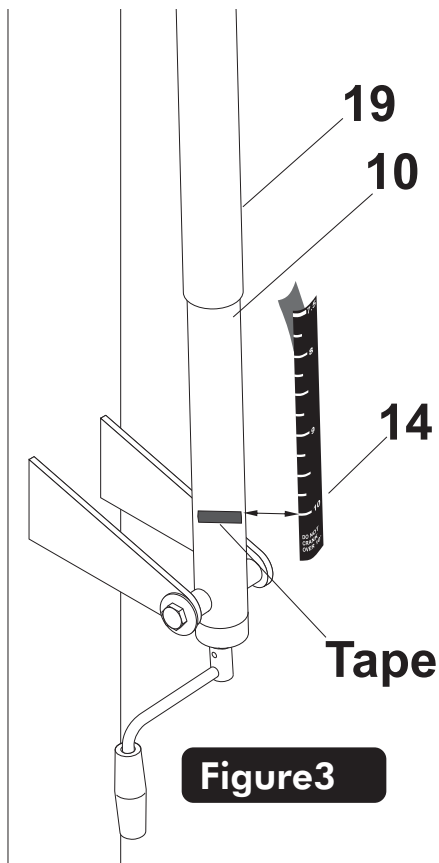

Figure3
5. Remove the adhesive backing from the Height Decal (**#17**) and carefully align and stick the decal to the back of the steel actuator (**#16**) starting at the **10 ft mark first**. Be sure to keep the height decal straight and rub out all air bubbles. See **Figure 3**.